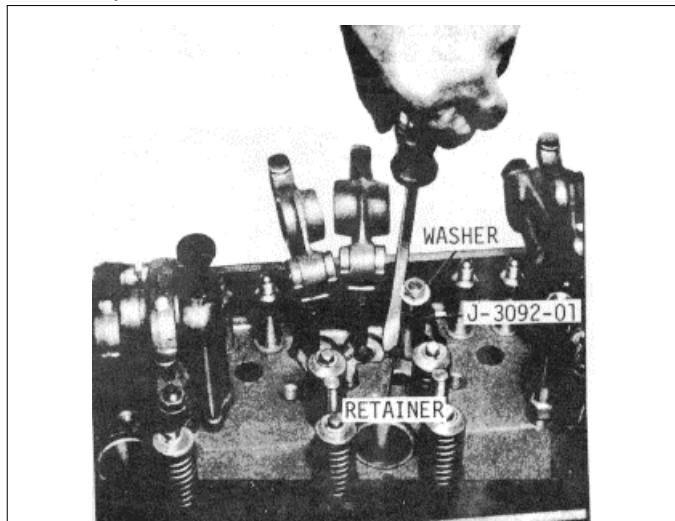

Fig. 2
- (1) Remove the rocker arm shaft and brackets as outlined under Remove Rocker Arms And Shaft.
- (2) Loosen the locknut and unscrew the rocker arm from the push rod to be removed. Remove the locknut.
- (3) Install remove J 3092-01, a flat washer and the locknut on the push rod, with the lower end of the tool resting on the upper spring seat.
- (4) Thread the nut down to compress the spring.
- (5) Remove the spring seat retainer from the groove in the cylinder head (Fig. 2).
- (6) Unscrew The locknut to release the spring. Then remove the nut, flat washer and tool from the push rod.
- (7) Pull the push rod, spring, spring seats and cam follower out of the cylinder head.